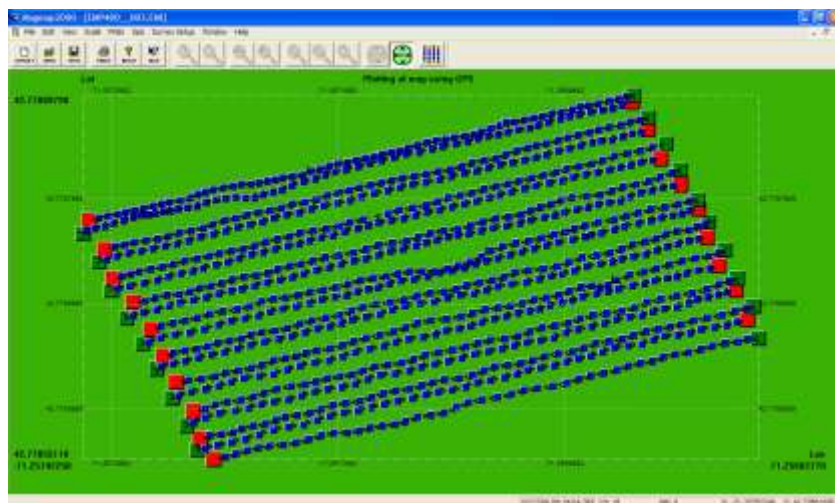

Figure 98: EM/GPS plotted data.
6. After selecting “Use GPS positions to load the data,” MagMap 2000 will display the data in Decimal Degrees format (Figure 98). The green squares indicate the start coordinate of a survey line, and the **red** squares indicate the end coordinate of a survey line. The blue squares indicate reading locations and the **black** arrows superimposed on the blue squares indicate the direction in which the transects were acquired.